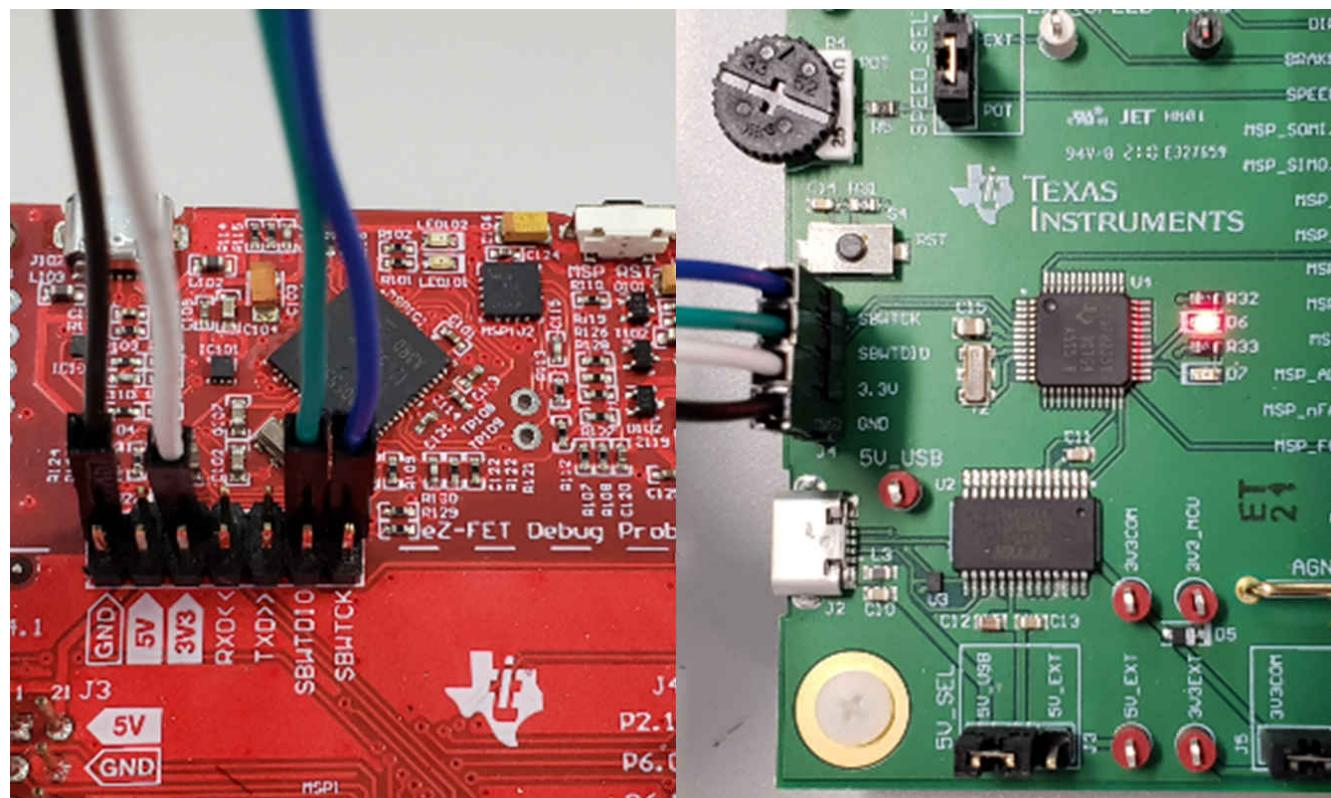

Figure 7-2. MSP430 LaunchPad™ eZ-FET Probe Connected to MCT8316AEVM
2. Connect the top pins on the eZ-FET side of the LaunchPad of the GND, 3V3, SBWTCK, and SBWTDO signals to their respective pins on J4 of the MCT8316AEVM as shown in Table 7-1 and Figure 7-2.